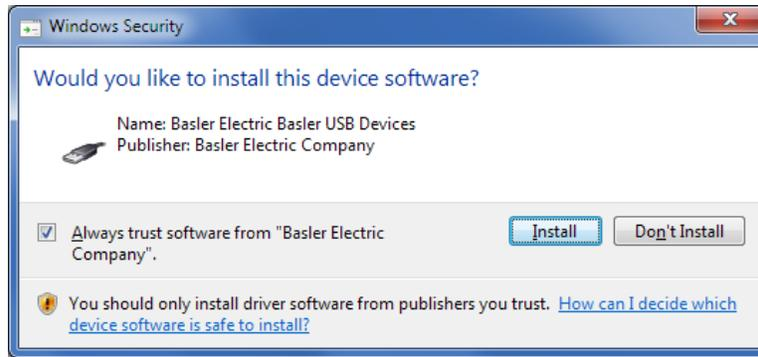

Figure 24-6. Windows Security
Step 6. If a Windows Security window (Figure 24-6) appears, click Install.